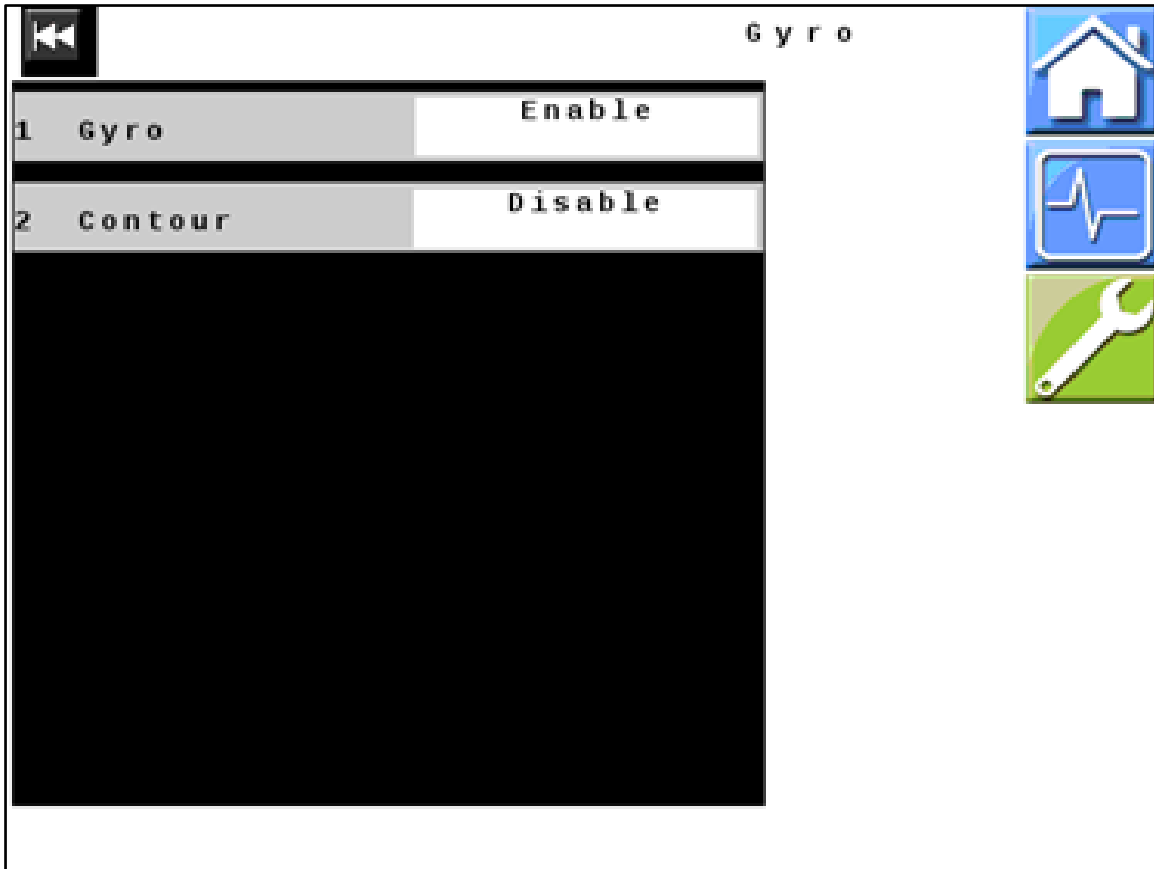

Figure 27 — Gyro
50. *Figure 27:* Verify that all values displayed on your unit match those shown here. Change values if necessary.